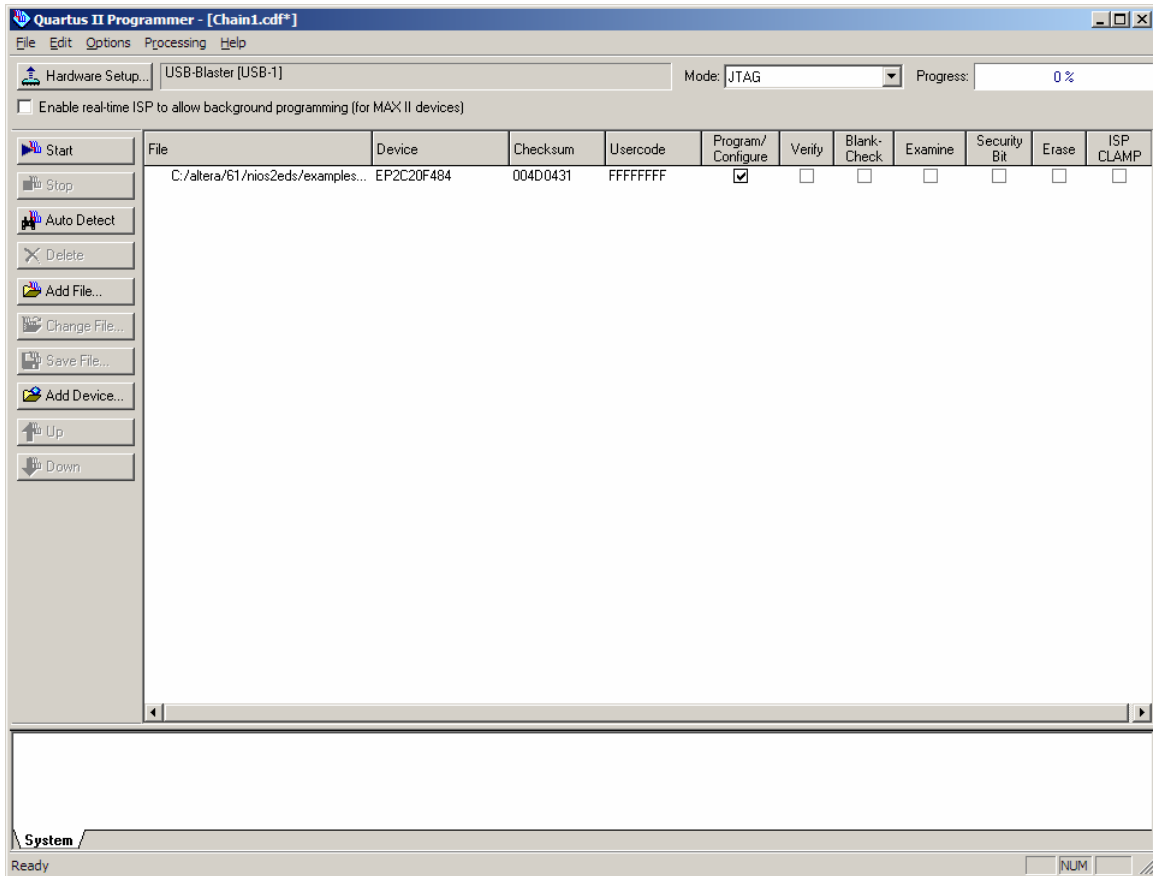

Figure 8. Loading the SRAM Object File into the Nios II Processor
- f. Select the **Program/Configure** checkbox for the **dbc2c20_standard_design.sof** file, as shown in **Figure 8**.